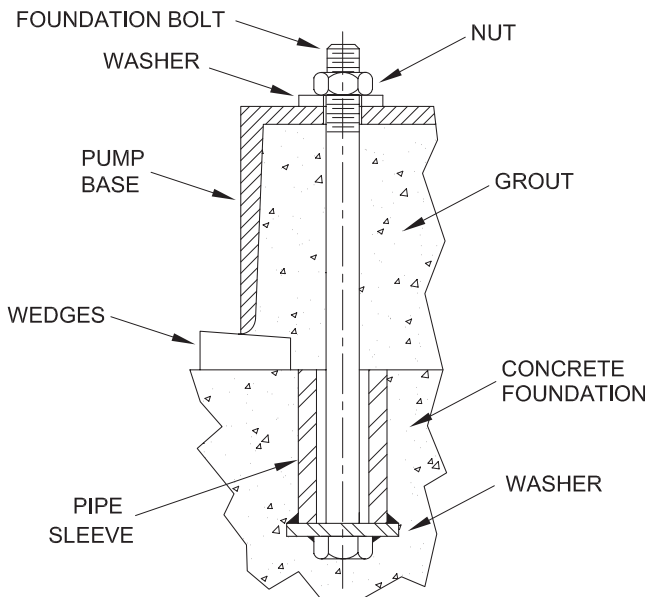

Figure 1. Foundation Bolt Location and Anchorage
2. Place pumping unit on foundation with bolts, of the proper size, imbedded in the concrete. A pipe sleeve, about 2½" diameters larger than the bolt, should be used to allow for final positioning of the bolts. See Figure 1.